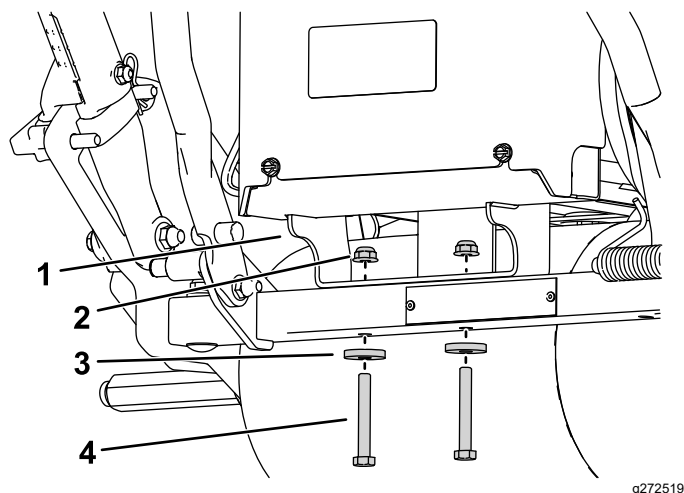

Figure 5
5. Remove the 2 nuts, washers, and bolts securing the power center bracket to the rear of the machine and remove it (Figure 5).